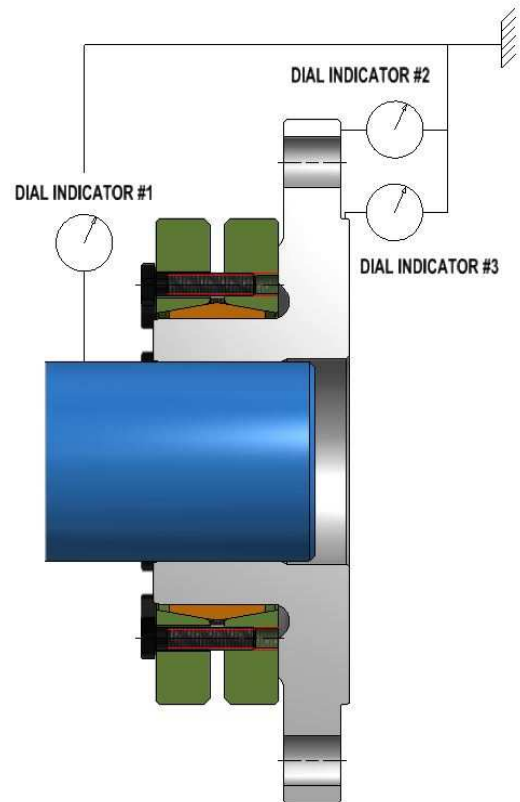

Figure 3. Coupling half installed (MAV 2008 tightened) – check of runout
7. Using dial indicators, check flange runout as illustrated in Figure 3.